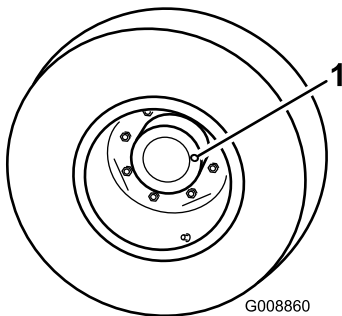

Figure 66
1. With the machine on a level surface, position the wheel so that the check/drain plug (Figure 66) is at either the 3 or 9 o'clock position.
2. Remove the plug on the planetary (Figure 66). Oil should be at the bottom of the check plug hole on the back side of the brake.